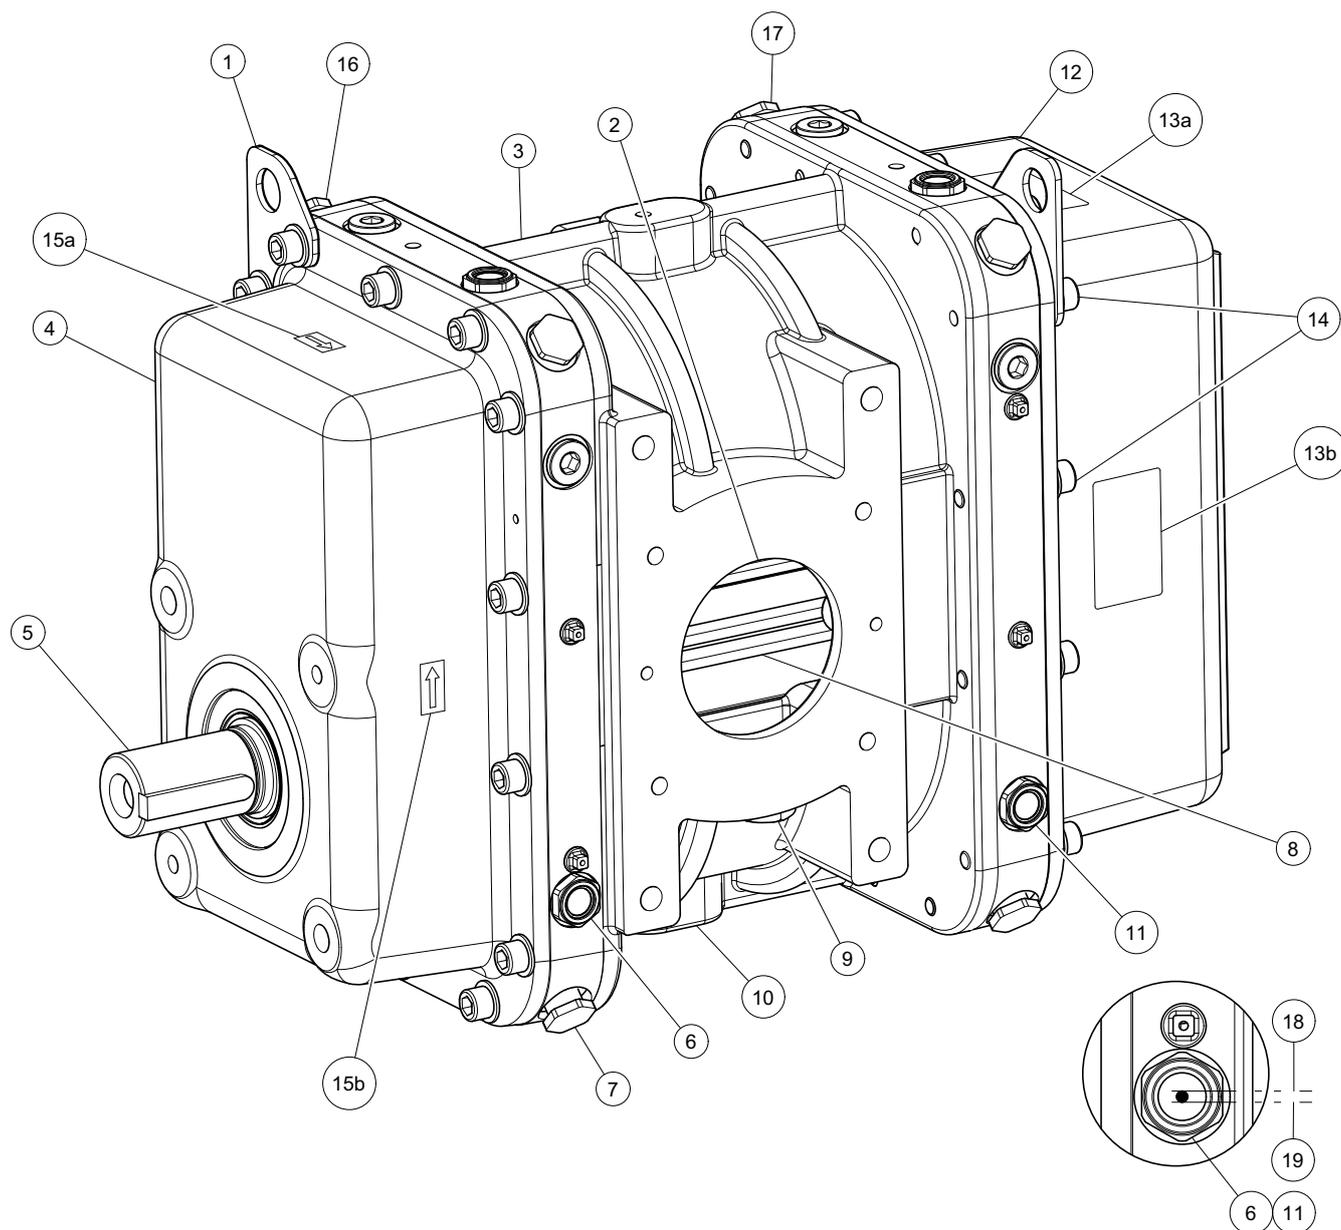

Figure 1 – Components of the PTB blower
The identification and rating plate (Figure 1, item 13) provides specific details about the blower, such as its Item Number and so on.
Refer to Figure 1. The PTB blowers are positive displacement blowers, which incorporate two three-lobe rotors (8). One of the rotors is driven by the drive shaft (5). The other rotor is maintained in the correct phase relation by timing gears. The timing gears and the bearings on the rotors and drive shaft are lubricated by oil in the drive end cover (4) and non-drive end cover (12).